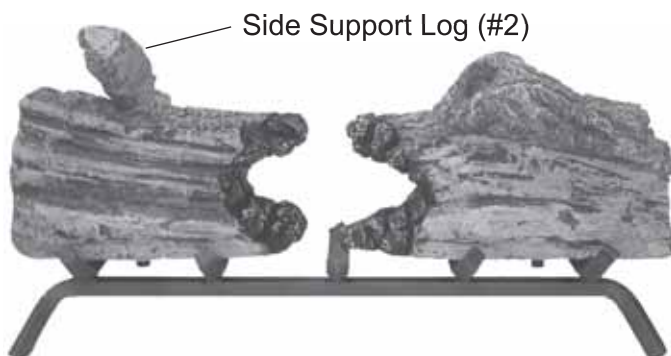

Figure 105 - Placing Side Support Log (#2) on Top Left of Log #1A
4. Place front end of Side Support Log #2 on top left of Log #1A. Rest other end of Log #2 on rear grate bar. *See Figure 105.*